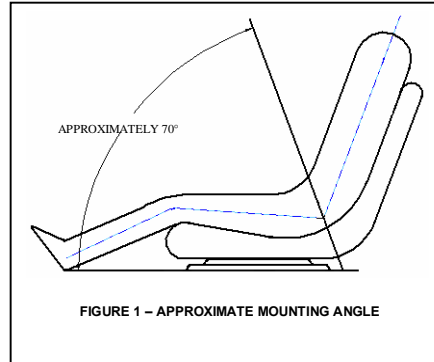

FIGURE 1 – APPROXIMATE MOUNTING ANGLE
5. Mark the floor behind the seat to assure that the lap belt is pulling downward and rearward at approximately a 70 degree angle. (See FIGURE 1)